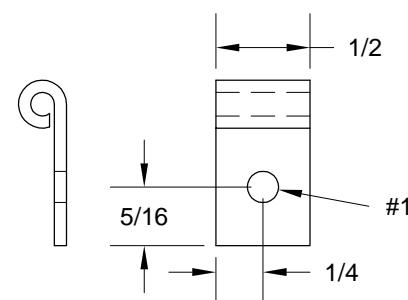

FIGURE 4: FABRICATING THE COWL PIN RETAINERS
Step 4: Make two F-1001V Cowl Pin Retainers from HINGE PIANO 1/8 per the dimensions in Figure 4.